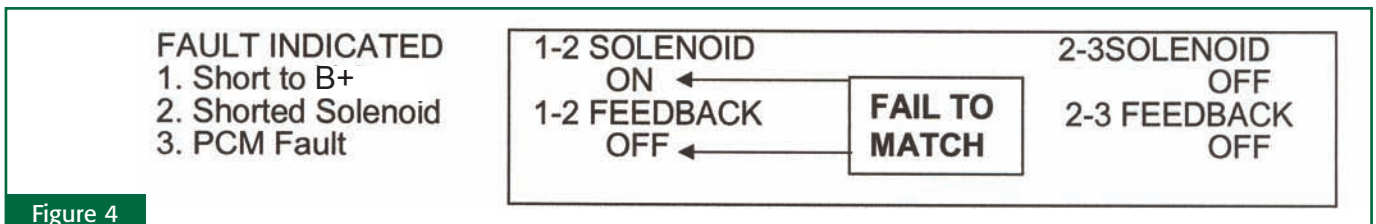

Figure 4
2. Feedback always indicates OFF: The feedback voltage remains high, even when the computer is commanding the solenoids on. This condition indicates one of three possible failures (Figure 4):